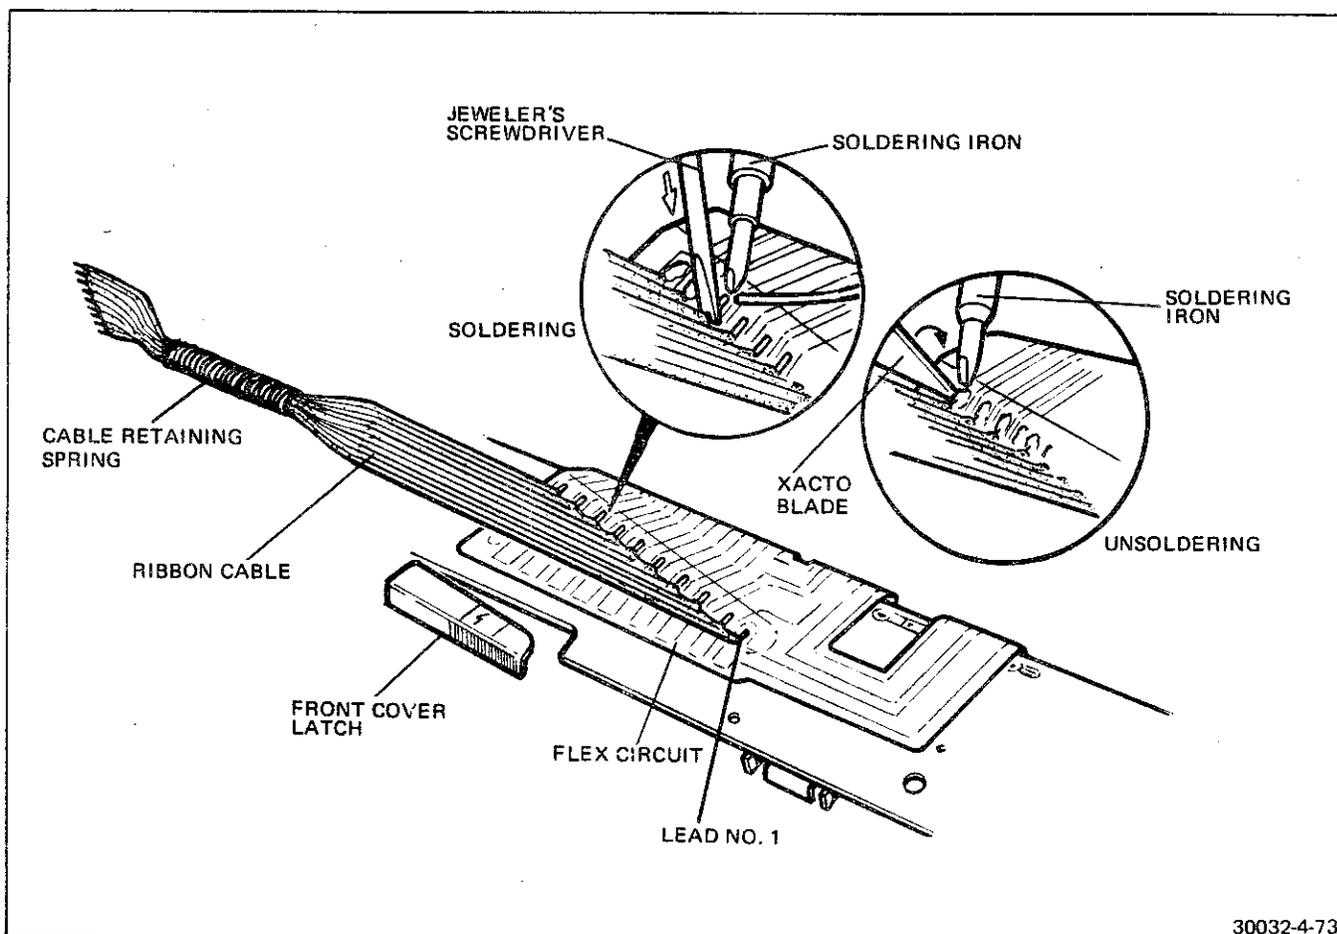

FIGURE 4-73 SOLDERING/UNSOLDERING RIBBON CABLE
- To unsolder the flex circuit end of the multi-wire ribbon cable, refer to Figure 4-73. Starting with lead No. 1 of the cable, insert the point of a sharp blade (a pointed blade Xacto knife is recommended) under the wire. The sharpened edge of the blade must be held so that it makes physical contact with the junction point of the wire lead and the solder pad of the flex circuit. Do not insert the point of the blade beyond lead No. 1.